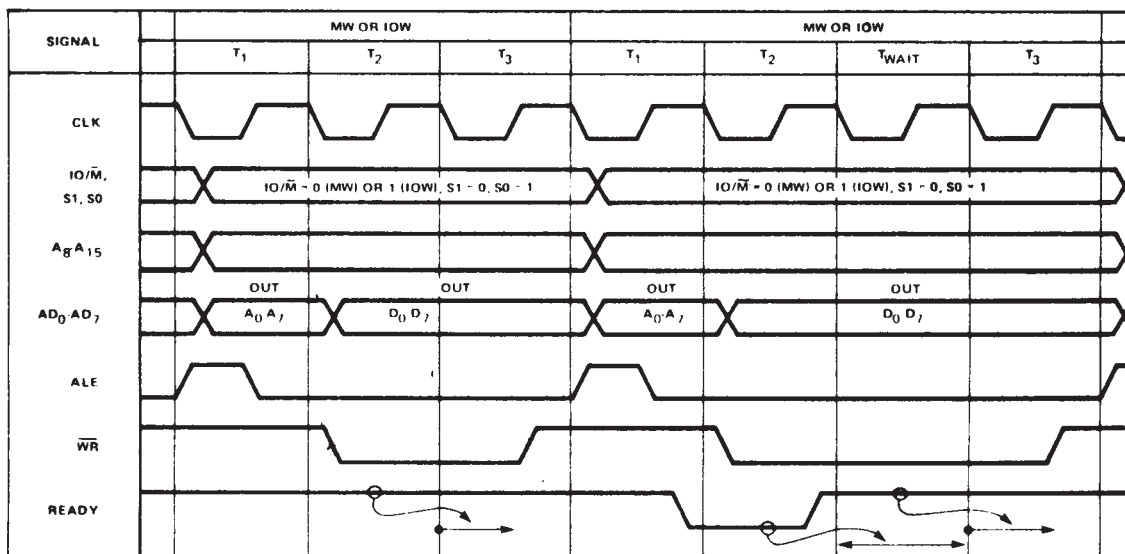

Figure 7-15 MEMORY WRITE (OR I/O WRITE) MACHINE CYCLES (WITH AND WITHOUT WAIT STATES)
Figure 7-15 shows the timing for two successive MEMORY WRITE (MW) machine cycles, the first without a T_{WAIT} state, and the second with one T_{WAIT} state. The 8085A sends out the status during T_1 in a similar fashion to the OF, MR and IOR cycles, except that $IO/\overline{M} = 0$, $S1 = 0$, and $S0 = 1$, identifying the current machine cycle as being a WRITE operation to a memory location.
As Figure 7-15 shows, the timing for an I/O WRITE (IOW) machine cycle is the same as an MW machine cycle except that $IO/\overline{M} = 0$ during the MW cycle and $IO/\overline{M} = 1$ during the IOW cycle.